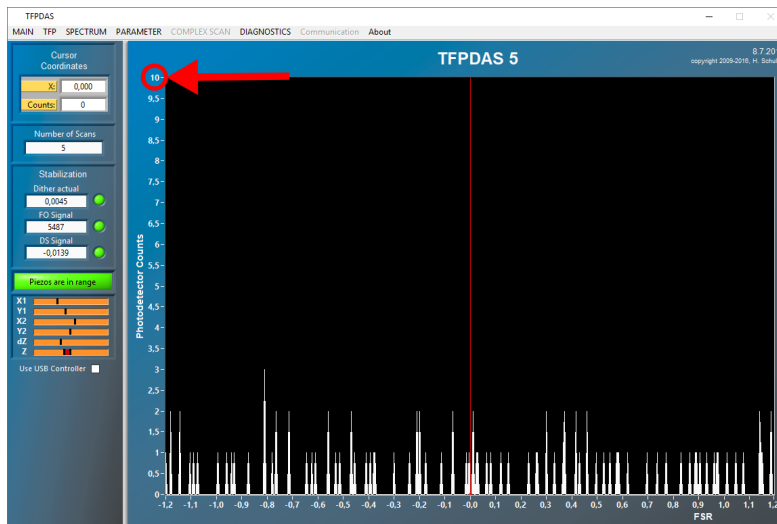

Figure 4: Scale the intensity until you see the noise level of the detector.
- [17] If you switched off the photodetector in step [6], switch on the detector again while still blocking any laser light going into the *TFP-interferometer*! Scale the intensity of the spectrum in the main window of the *TFPDAS 5 module* using the *arrow-up* (\uparrow) and *arrow-down* (\downarrow) keys on the keyboard until you see the noise of the detector as ewxemplarily shon in Fig. 4: